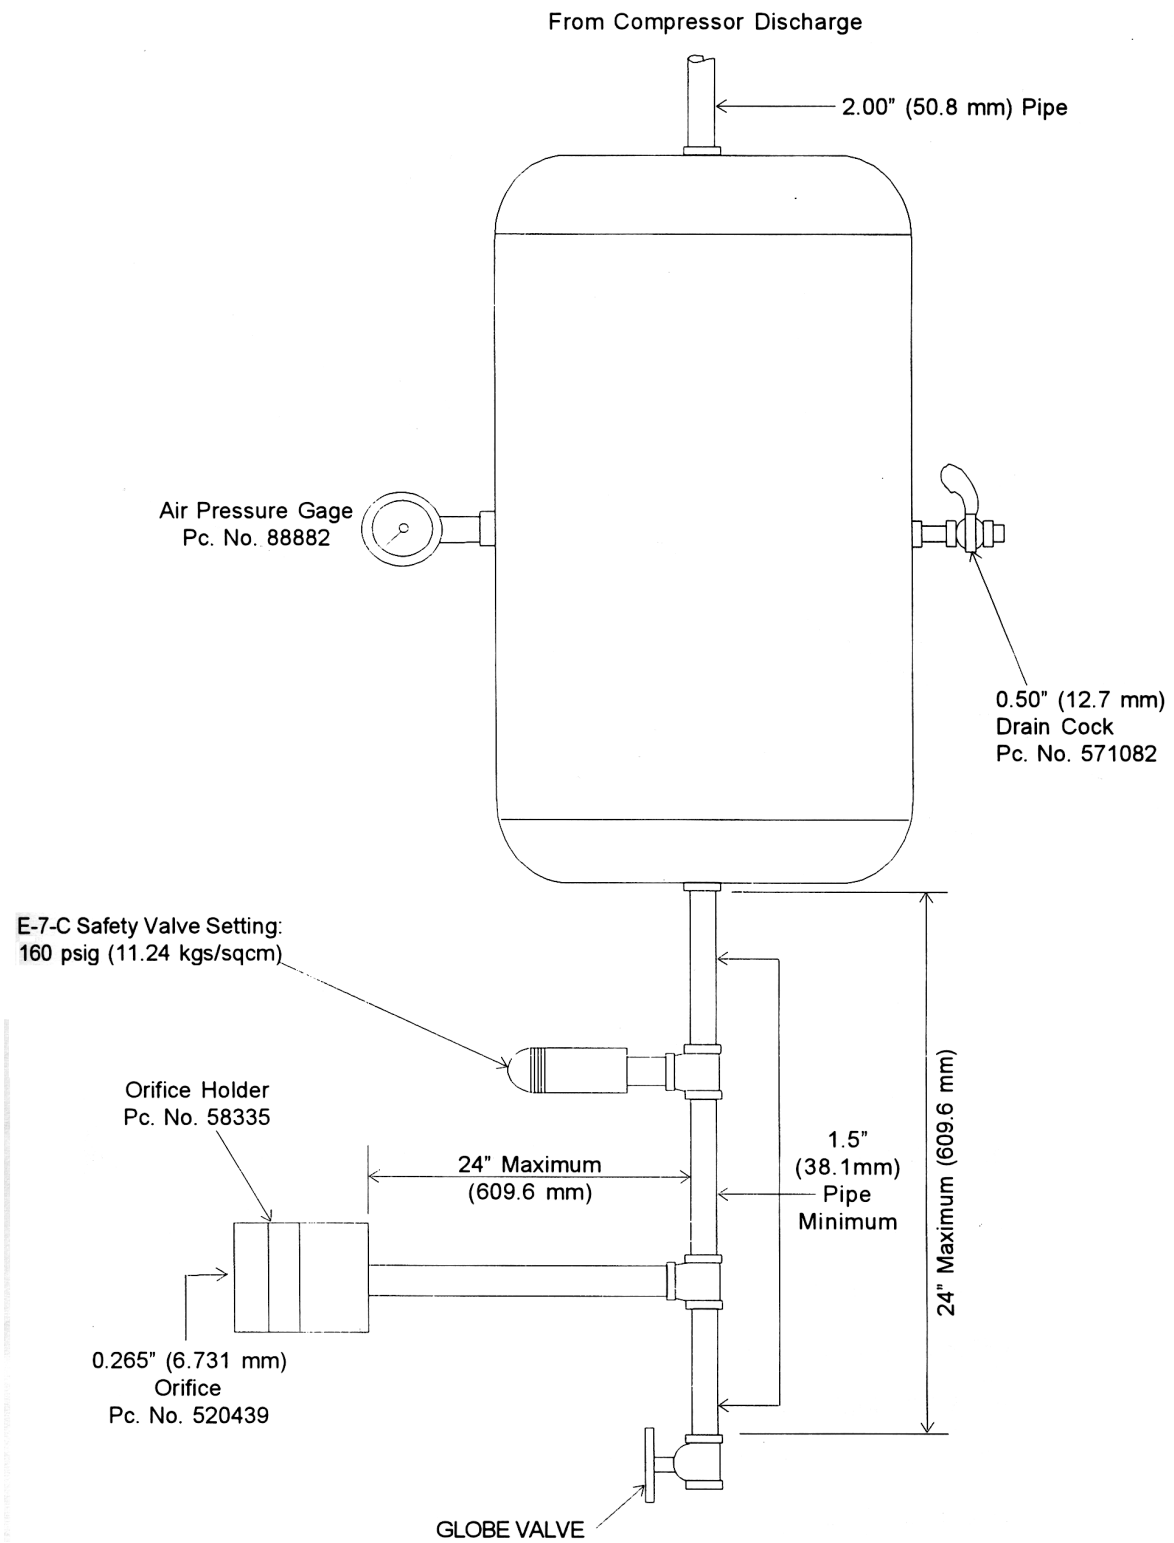

Figure 22 Compressor Capacity Test Arrangement
2. The capacity test should then be made in accordance with the arrangement for testing as shown in Figure 22.